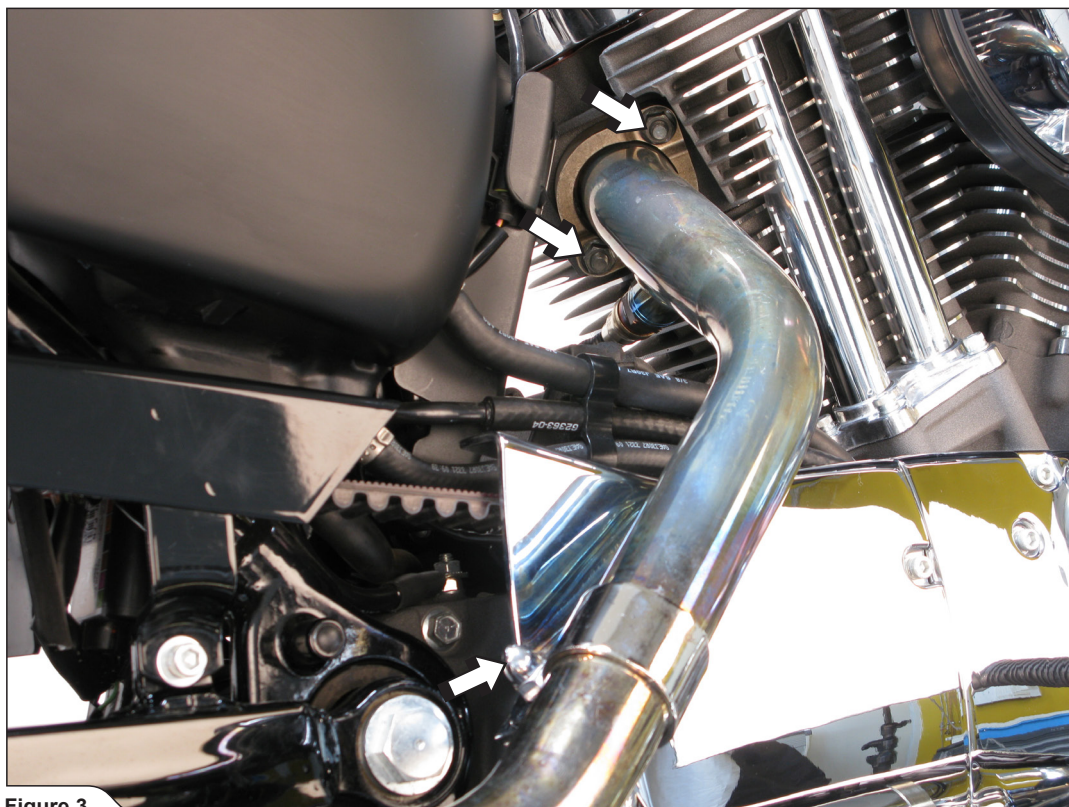

Figure 3
4. Unscrew the rear header pipe's bracket and untighten headers' flanges on both header pipes (Figure 3).